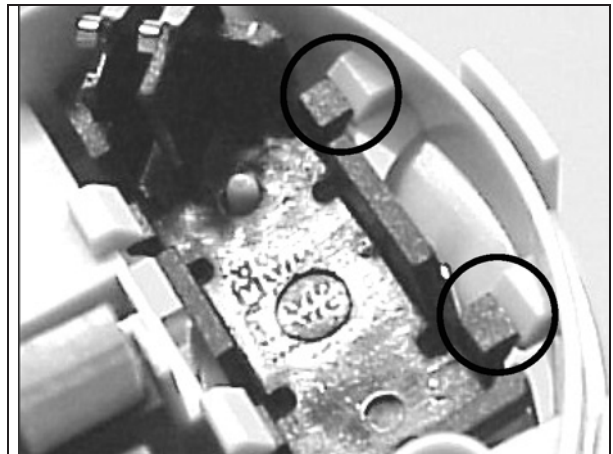

Figure 7-25.
2. Turn the back housing so the two top clips can be seen through the access ports. (See Figure 7-25.)